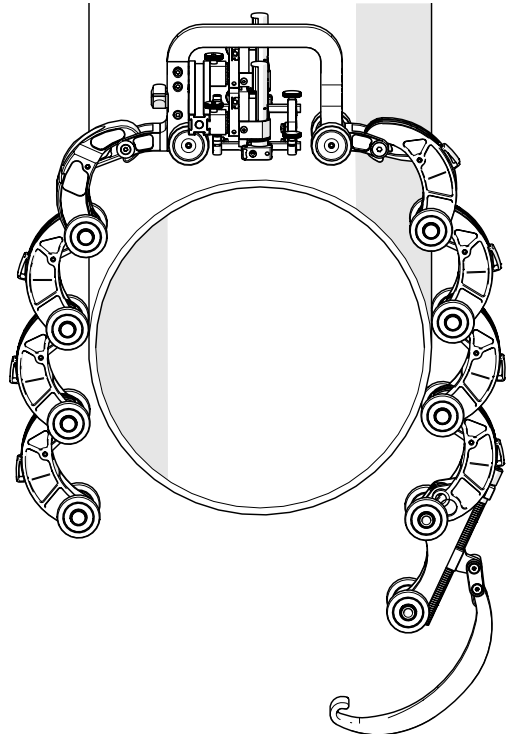

Fig. 78 - Place on pipe
5. Drape the configured assembly around the pipe/tube to be inspected (Fig. 78). Ensure the double wheel chain links straddle the weld (during two probe scanning).